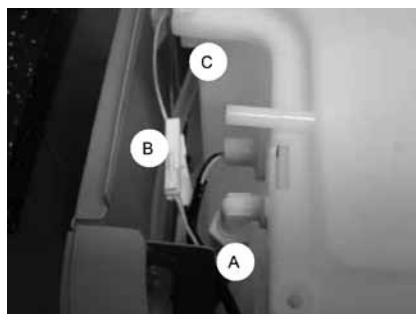

Figure 4: Internal plastic reservoir
1. Completely remove the internal plastic reservoir (see Figure 4) from the unit. Remove the protective silicon sleeve from the electronic float.